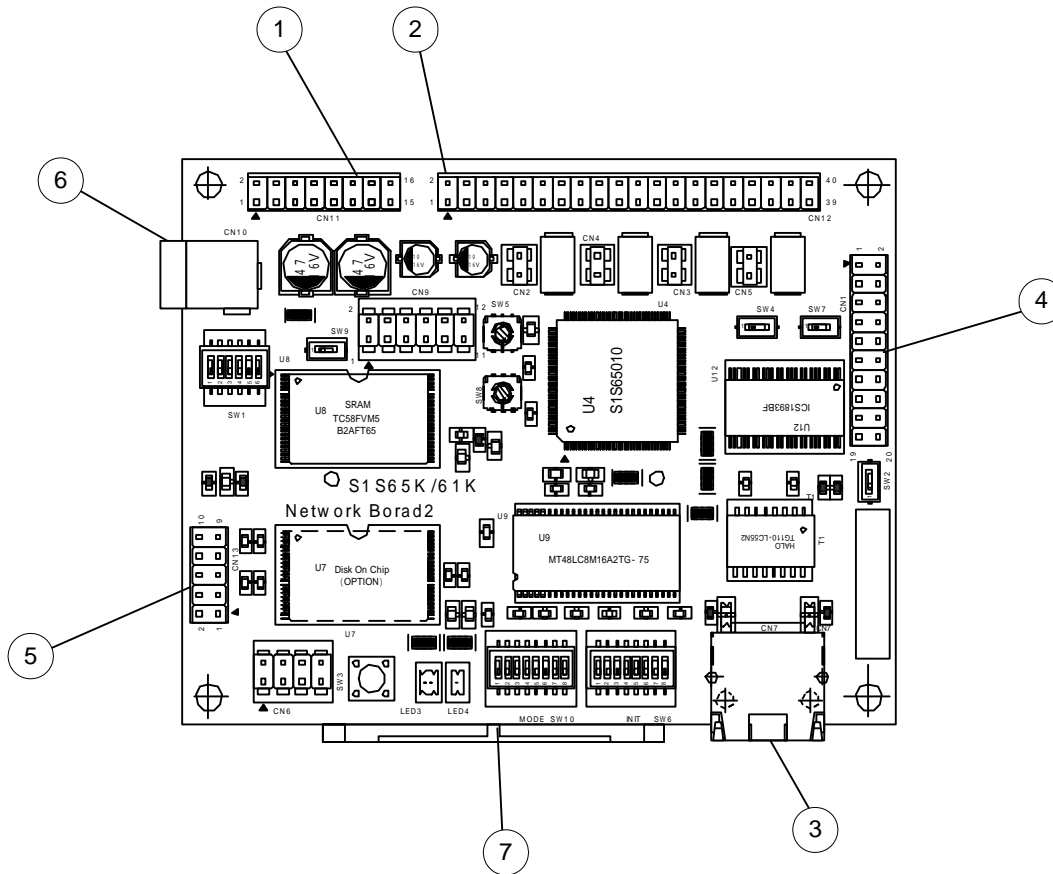

Fig.4.1 Main Board Layout
(1) in Fig.4.1
(2) in Fig. 4.1
(3) in Fig.4.1
(4) in Fig. 4.1
(5) in Fig. 4.1
(6) in Fig. 4.1
(7) in Fig. 4.1